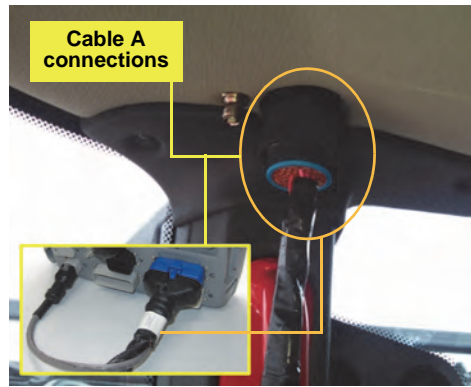

Figure 1: ISO cable connections
Figures 1 and 2a show a prototype ISO interface cable A.
- a. Remove the existing MAX interface cable (if installed - the 'blue cable') and install interface cable **A** between the MAX (main and power connections, see inset) and the ISO roof connector near the front right cab pillar (Figure 1).